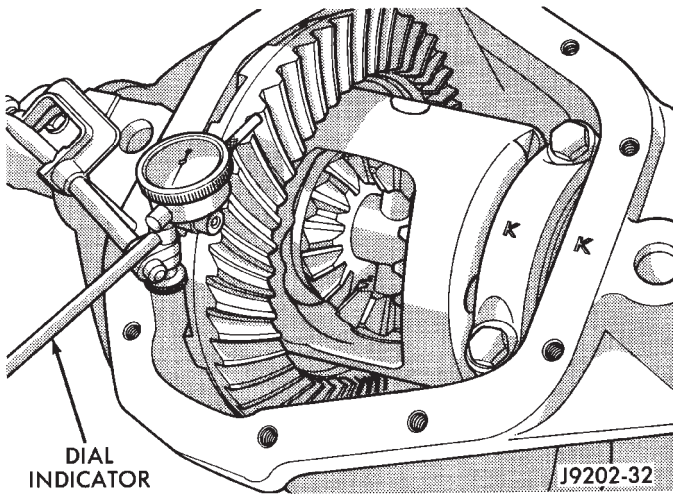
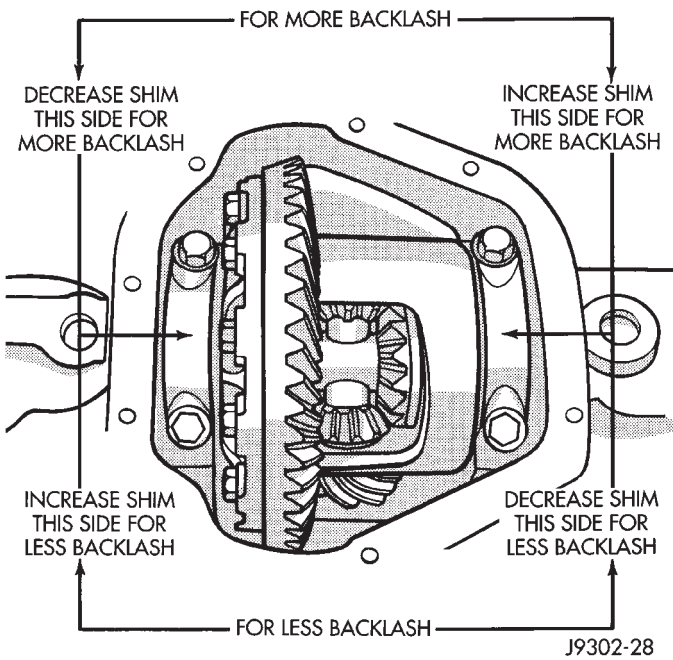

Fig. 59 Ring Gear Backlash Measurement
Fig. 60 Backlash Shim Adjustment
(27) Rotate dial indicator out of the way on guide stud.
(28) Remove differential case and dummy bearings from axle housing.
(29) Install side bearing shims on differential case hubs.
(30) Install side bearings and cups on differential case.
(31) Install spreader W-129-B, utilizing some items from Adapter Set 6987, on axle housing and spread axle opening enough to receive differential case.
(32) Install differential case in axle housing.
(33) Remove spreader from axle housing.
(34) Rotate the differential case several times to seat the side bearings.
(35) Position the indicator plunger against a ring gear tooth (Fig. 59).
(36) Push and hold ring gear upward while not allowing the pinion gear to rotate.
(37) Zero dial indicator face to pointer.
(38) Push and hold ring gear downward while not allowing the pinion gear to rotate. Dial indicator reading should be between 0.12 mm (0.005 in.) and 0.20 mm (0.008 in.). If backlash is not within specifications transfer the necessary amount of shim thickness from one side of the axle housing to the other (Fig. 60).
(39) Verify differential case and ring gear runout by measuring ring to pinion gear backlash at several locations around the ring gear. Readings should not vary more than 0.05 mm (0.002 in.). If readings vary more than specified, the ring gear or the differential case is defective.